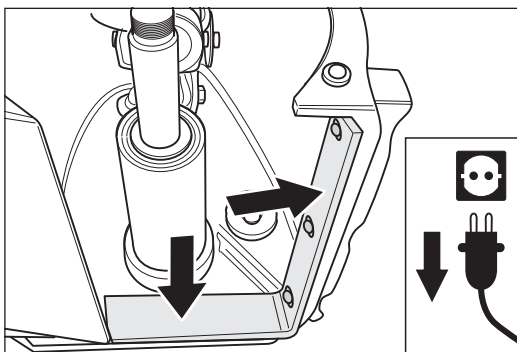

Fig. 77 The sealing felt must not demonstrate any signs of damage, otherwise replace!
- Ensure that the sealing felt is not worn or damaged (Fig. 77)!